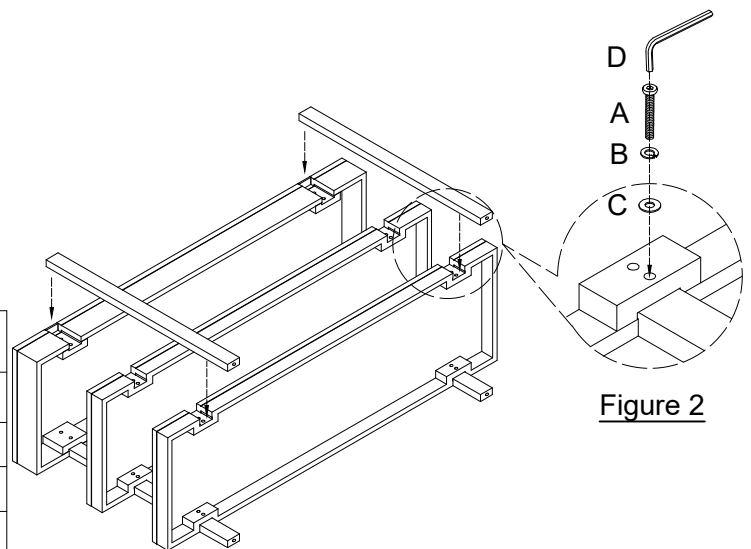

Figure 2
3. Attach the shelves to the legs using Bolt (A), Lock Washer (B) and Flat Washer (C) and tighten with the Allen Wrench (D). As Shown in Figure 2